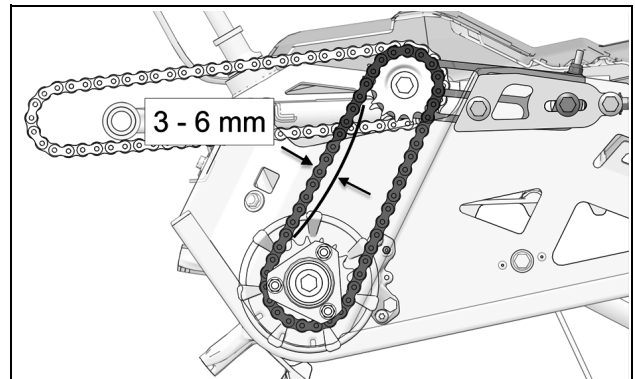

Figure 10
- Apply pressure at center of the two drive pignons. The chain should have 3-6 mm (1/8-1/4 in.) of play. Re-adjust until the right amount of play is obtained. See Figure 10.